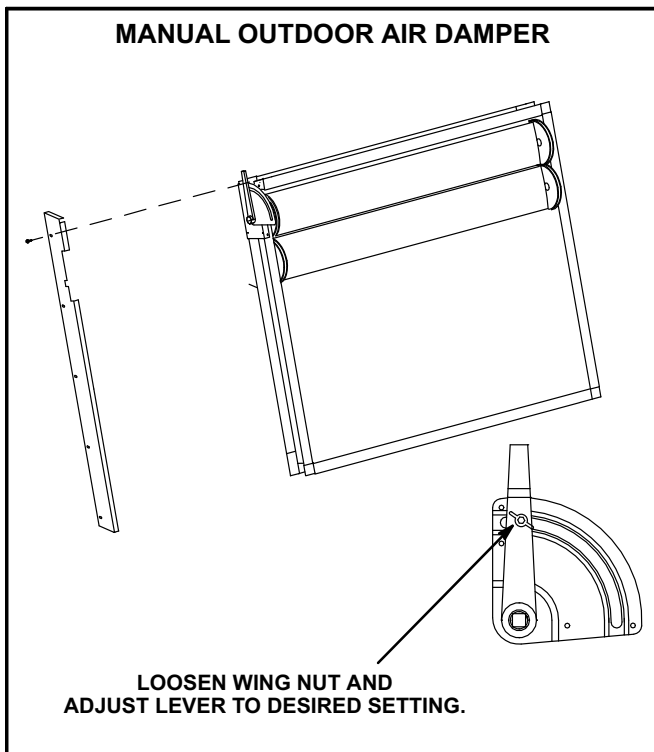

FIGURE 2
Damper is manually operated; damper position is manually set at installation and remains in that position. See figure 2.
- 3- Align bottom of damper assembly with support bracket and slide assembly into unit. See figure 2.
- 6- Loosen wing nut on damper adjustment lever on damper assembly end plate. Adjust to desired setting and tighten wing nut. See figure 2.